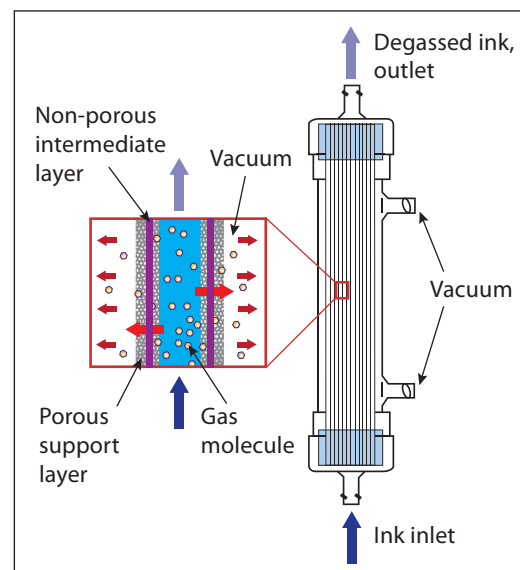

Figure 2: Schematic of fiber showing directional flow
- 3.2 Connect ink inlet/outlet and vacuum ports. (See figure 2.) Verify that connection surfaces are clean and not damaged. Make sure not to over tighten the luer lock fittings.